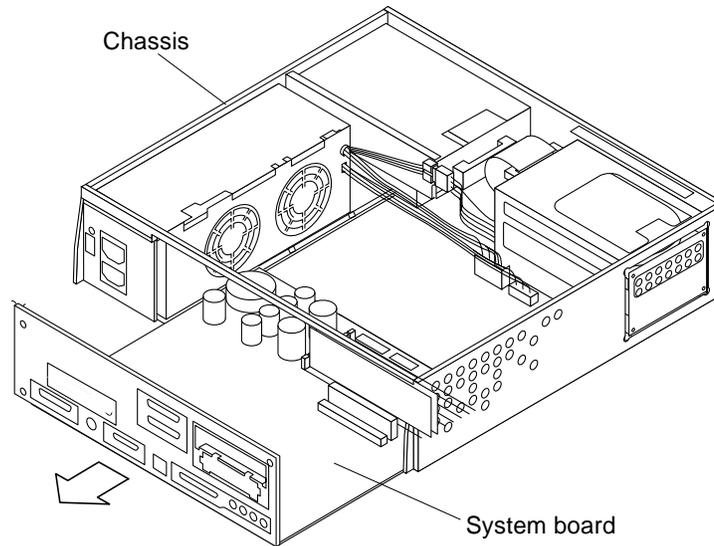

Figure 2-14 Sliding the System Board Out of the Chassis
5. **Grasp the system board and slide it out of the chassis (Figure 2-14). Handle the system board by the back panel or by the edges only.**